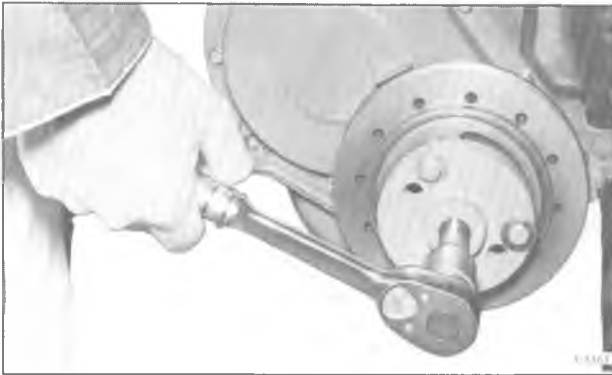

Figure 24—Removing Crankshaft Damper
4. Install Tool (J-6978-04) on damper and turn puller screw to remove damper (fig. 24). Remove tool from damper.